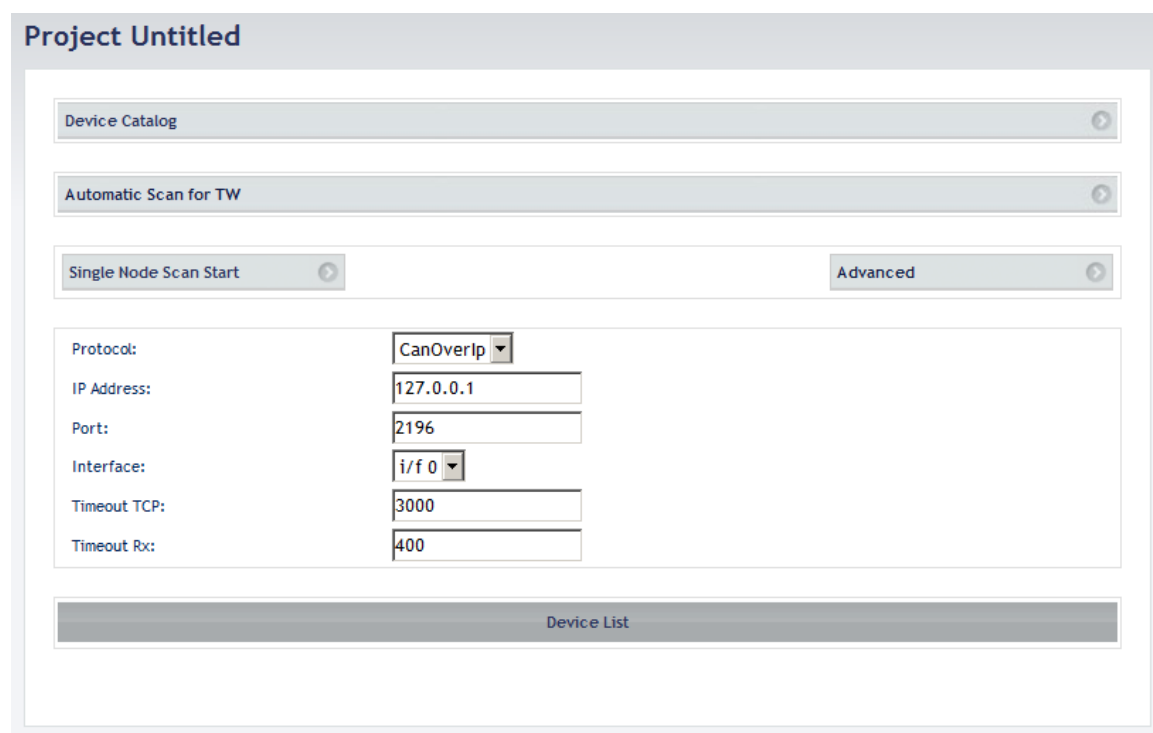

Figure 15 – Automatic single node scan for Tw
- Click the “Automatic Scan for TW” bar on the main window. Before starting scan, press the “Advanced” bar to check the communication parameters in Figure 15. CanOverIp is the default protocol for Tw series. Refer to Chapter 6 for more details on communication parameters settings.